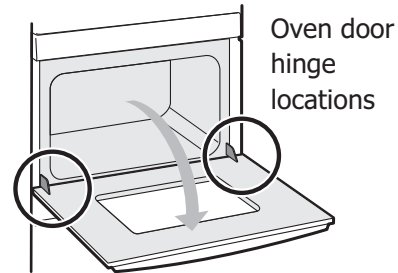

Figure 19: Door hinge location
1. Open oven door completely, horizontal with floor (See Figure 19).
3. Fully open the oven door, horizontal with floor (See Figure 19).